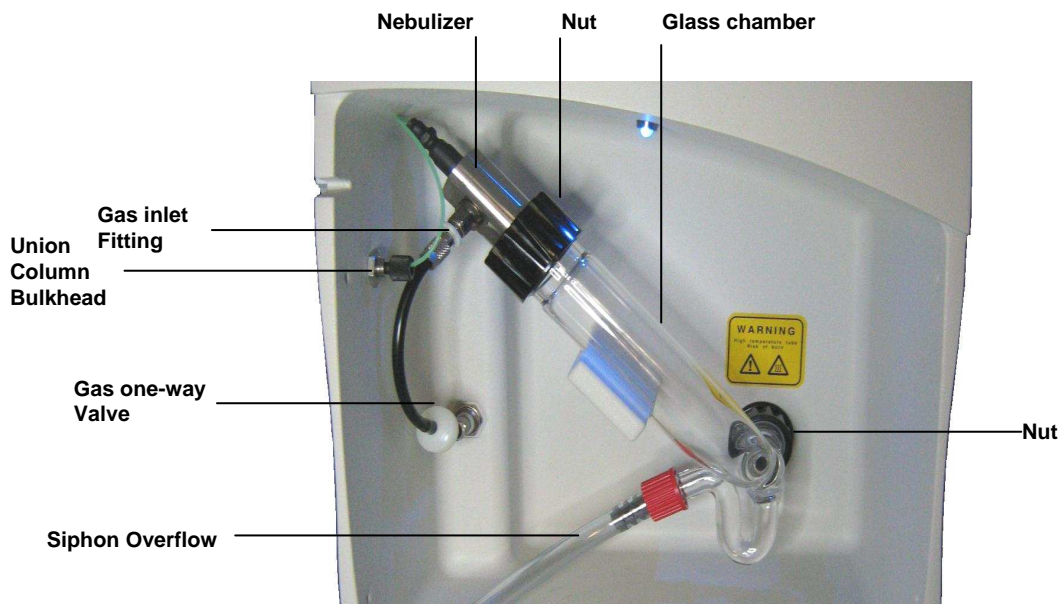
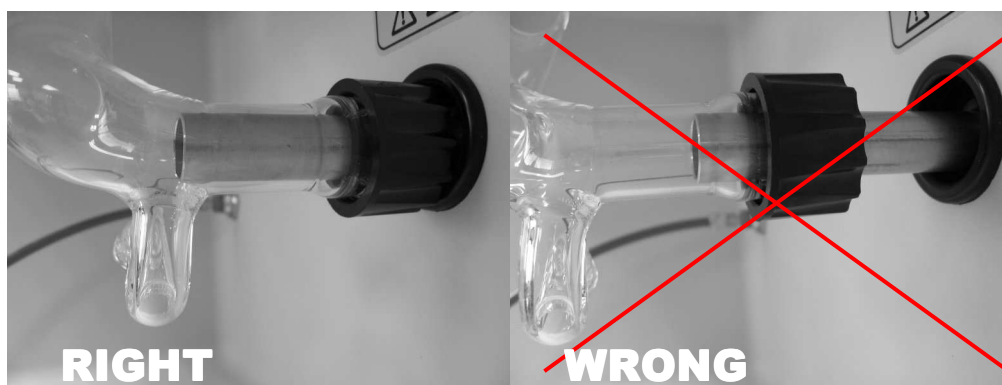

Figure 2-5: Installing the Nebulizer/Glass Chamber Assembly
Figure 2-6: Fixing the Tip of Glass Chamber
The installed Nebulizer/Glass Chamber assembly is shown in Figure 2-5.
- b) Position the glass chamber as shown in Figure 2-5 and tighten the black nut at the bottom. The glass chamber should be flush with the back wall as shown in Figure 2-6.
Attach the nebulization gas tube coming out from the front panel to the nebulizer gas inlet fitting located on the nebulizer side. Refer Figure 2-5.